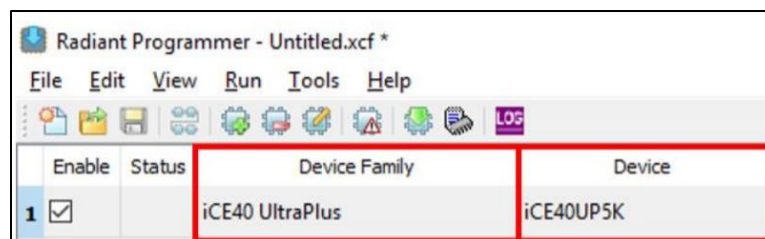

Figure 8.11. Lattice Radiant Programmer: Device Family and Device Setting
- c. Set **Device Family** to **iCE40 UltraPlus** and **Device** to **iCE40UP5K** as shown in Figure 8.11.